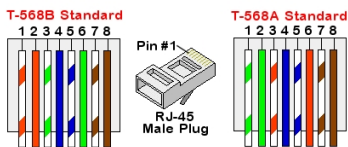

Figure 3: Standard cable wiring
- c. Insert the eight wires into an RJ45 connector (see *Figure 3*).
7. For the switch/router side, use a pre-terminated cable or use a crimper to prepare an RJ45 communication connector: Insert the eight wires into the RJ45 connector in the same order as above (see *Figure 3*).